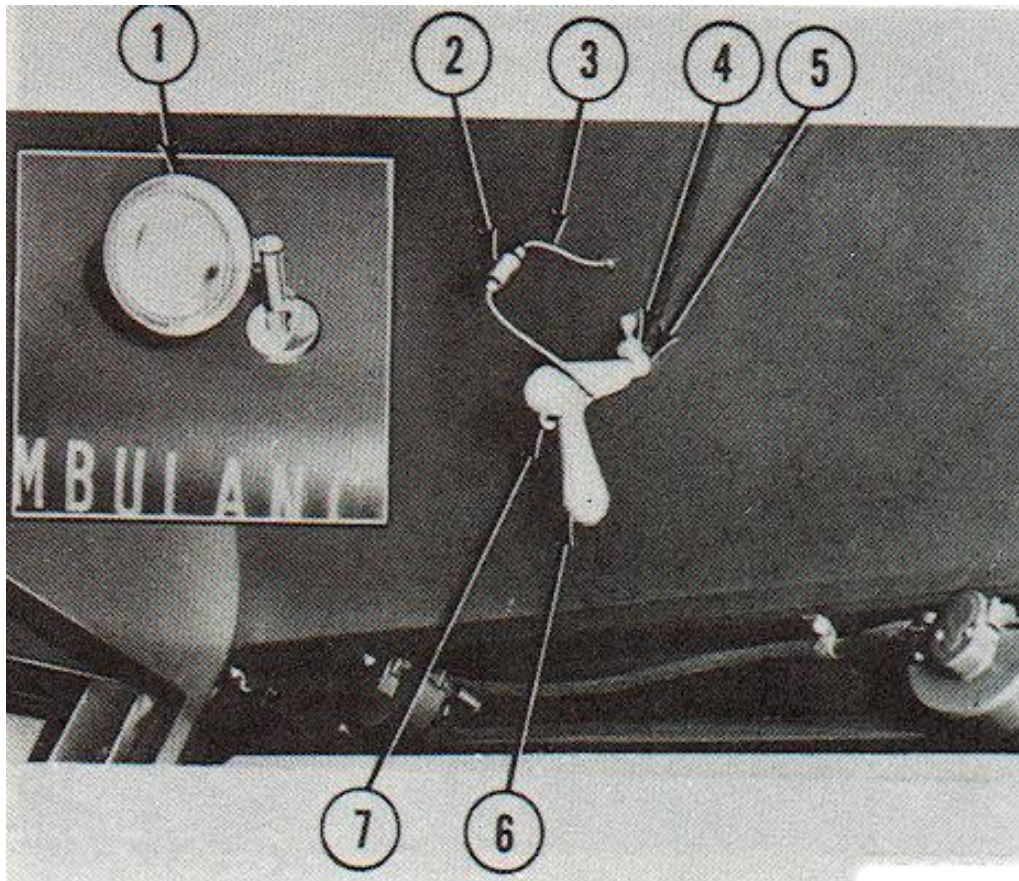

Figure 2-47. Ambulance vehicle spotlight.
- (1) Remove clamp screws securing signal switch to Steering column.
- (2) Disconnect signal switch wiring at distribution box located on left side of firewall.
- (3) Remove harness grommet from firewall and thread harness through firewall. Remove signal switch and harness as a unit.
o. Spotlight Lamp Unit (Ambulance Only). (Fig 2-47)
- (1) Remove phillips head screw at bottom of sealed beam bezel.
- (2) Remove bezel and pull sealed beam unit from spotlight body.
- (3) Disconnect wiring harness connector and remove the sealed beam lamp unit.